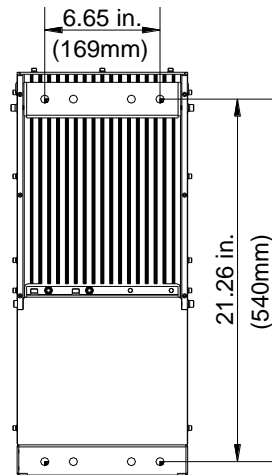

Figure 14: Wall Drilling Dimensions of RU
Step 2: Measure and mark the locations of 4 holes on the wall. Refer to Fig 14 for the wall drilling dimensions of RU. Use a $\Phi 10$ drill bit for masonry bolts.